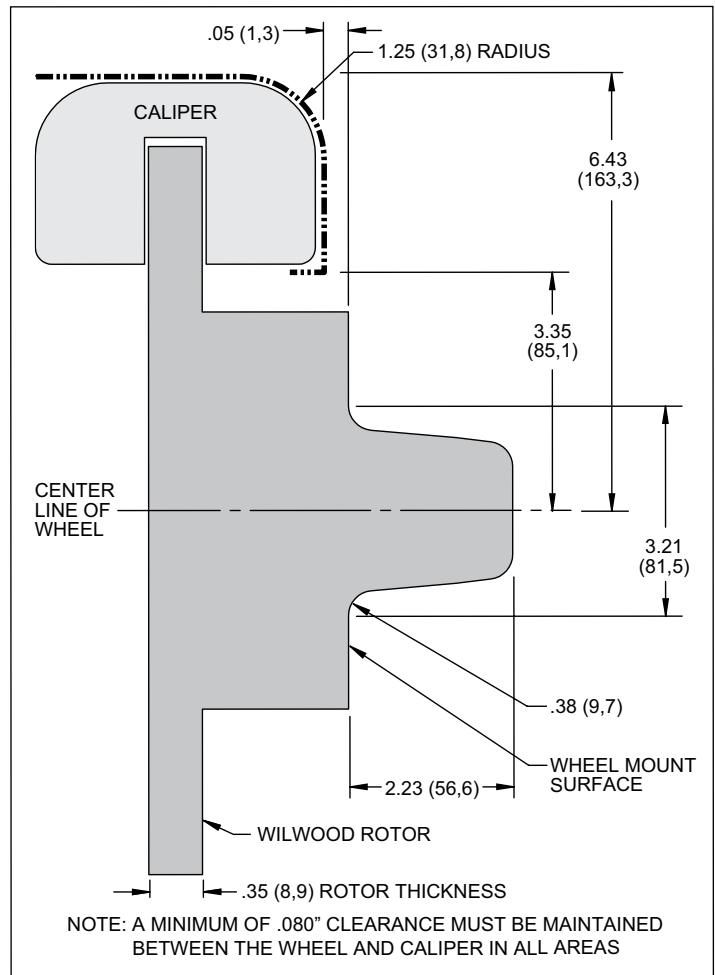

Figure 3. Wheel Clearance Diagram
- Review the wheel clearance diagram (Figure 3, page 5) to verify that there is adequate clearance with the wheels you will be using with the installation.
- Verify your wheel clearance using Figure 3.